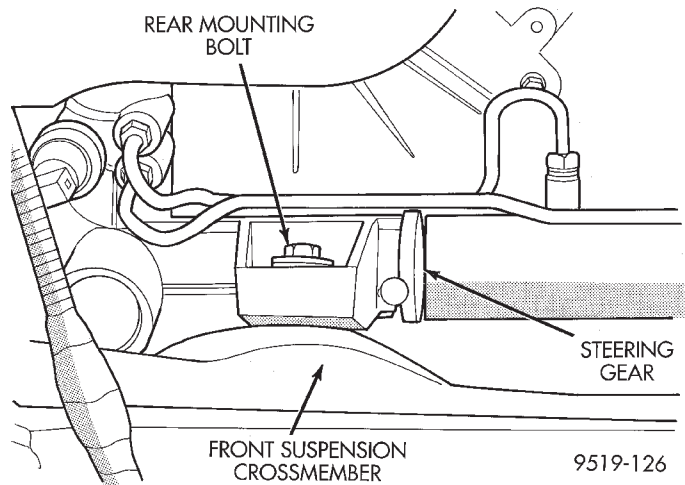
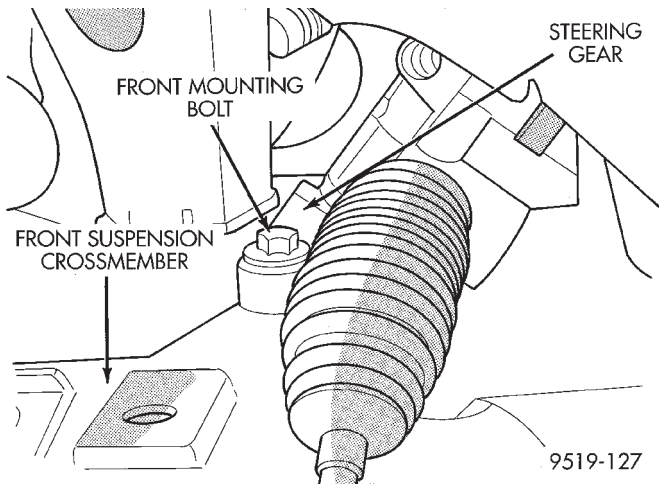
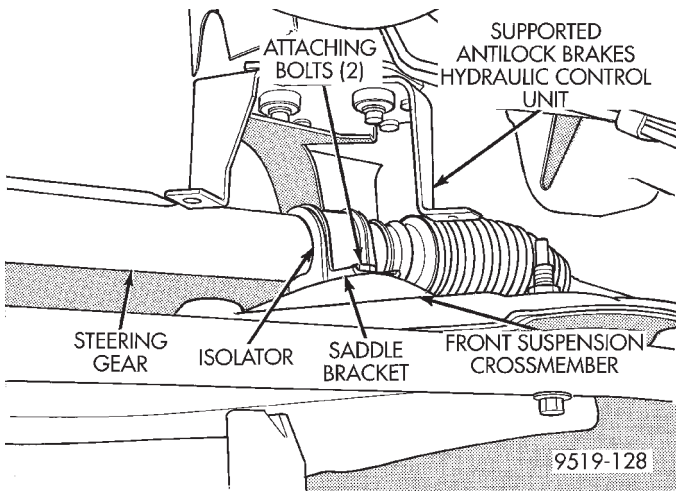

Fig. 19 Steering Gear Rear Mounting Isolator Bolt
Fig. 20 Steering Gear Front Mounting Bolt
Fig. 21 Steering Gear Saddle Bracket Mounting Bolts
(22) Remove the 2 bolts, at the isolators (Fig. 19) and (Fig. 20) attaching the steering gear assembly to front suspension crossmember. Then remove the 2 bolts attaching the steering gear saddle bracket (Fig. 21) to the front suspension crossmember. Remove the steering gear assembly from the front suspension crossmember.
19) and (Fig. 20) into the mounting isolators. Then install the 2 short bolts (Fig. 21) into the saddle bracket. Tighten the 4 steering gear mounting bolts to a torque of 68 N·m (50 ft. lbs.).